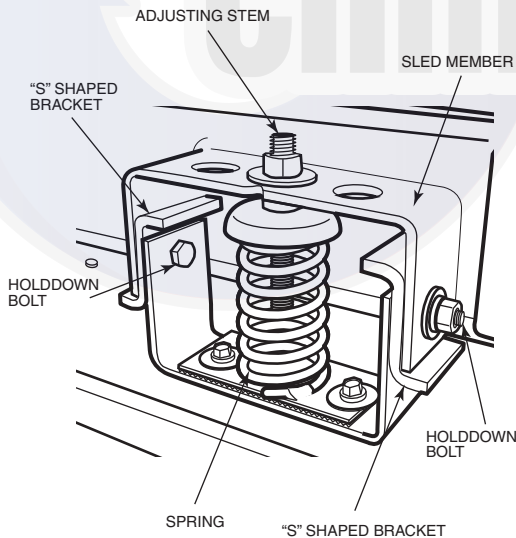

Fig. 17 — Spring Isolator and Holddown Bracket
REMOVING HOLDDOWN BOLTS, AIRFOIL, PLENUM AND FORWARD-CURVED FANS — Remove the hold-down bolts (Fig. 17) as follows:
2. Remove the bolts that fasten the fan sled to the hold-down bracket (Fig. 17). Remove “S” shaped brackets.
When field-supplied motors and drives have been installed, adjust the isolator springs as shown in Fig. 17 and described as follows: